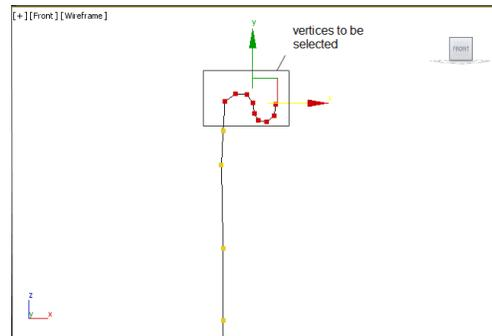

Figure 5-26 The selected vertices
- Select the upper vertices of *pillar*, as shown in Figure 5-26 and then right-click; a quad menu is displayed. Choose **Smooth** from the quad menu; the upper portion of *pillar* is smoothed. Select the **Vertex** sub-object level again to exit the sub-object mode.